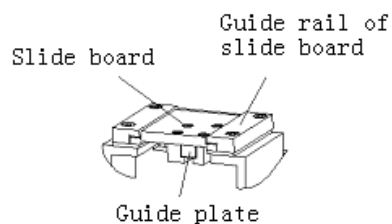

Fig4-4
a. Slide board and guide plate (Fig4-4)